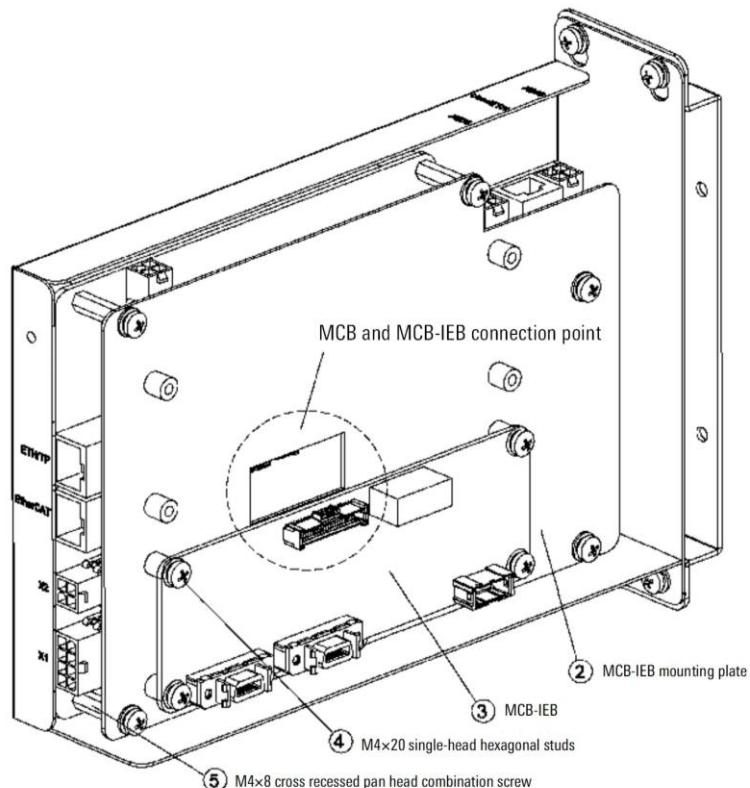

Figure 2-7 Install MCB-IEB
Step3. Pass the ② MCB-IEB mounting plate through 5 ④ M4×20 single-head hexagonal studs and 5 ⑤ M4×8 cross recessed pan head combination screws are fixed on the MCB, and ③ MCB-IEB is passed through 4 ⑤ M4×8 cross recessed pan head combination screws fixed on ② MCB-IEB mounting plate, refer to Figure 2-7.